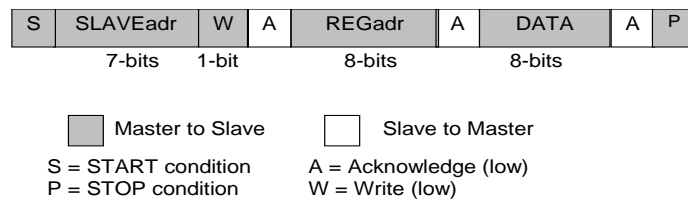
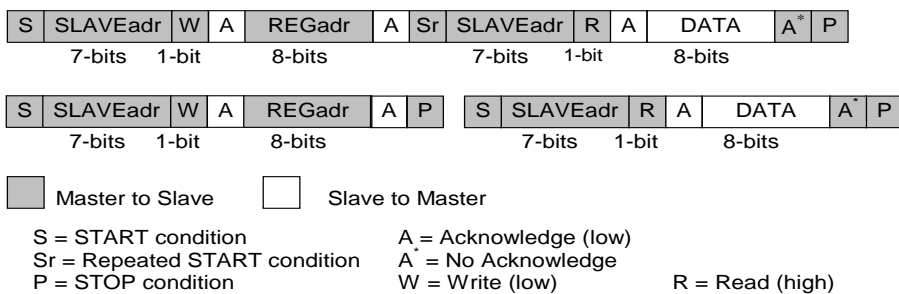

Figure 22: I²C Byte Write (SDA Line)
Figure 23: I²C Byte Read (SDA Line) Examples
The I²C bus is monitored for a valid slave address whenever the interface is enabled. It responds immediately when it receives its own slave address. The acknowledge is done by pulling the SDA line low during the following clock cycle (white blocks marked with A in Figure 22 and Figure 23).
The protocol for a register write from master to slave consists of a START condition, a slave address with read/write bit, and the eight-bit register address followed by eight bits of data, terminated by a STOP condition. DA9220 responds to all bytes with acknowledge (A), see Figure 22.
When the host reads data from a register it first has to write to DA9220 with the target register address and then read from DA9220 with a repeated START, or alternatively a second START condition. After receiving the data, the host sends no acknowledge (A*) and terminates the transmission with a STOP condition, see Figure 23.